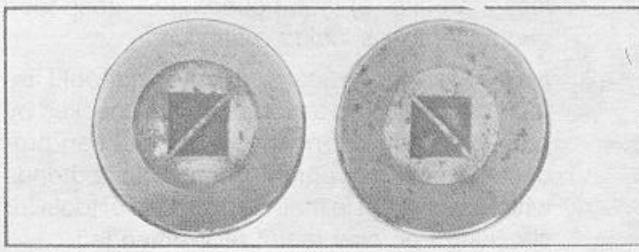

Figure 13
1. Large ends of rollers worn flush to recess or radii at large ends of rollers worn sharp (Figure 13).